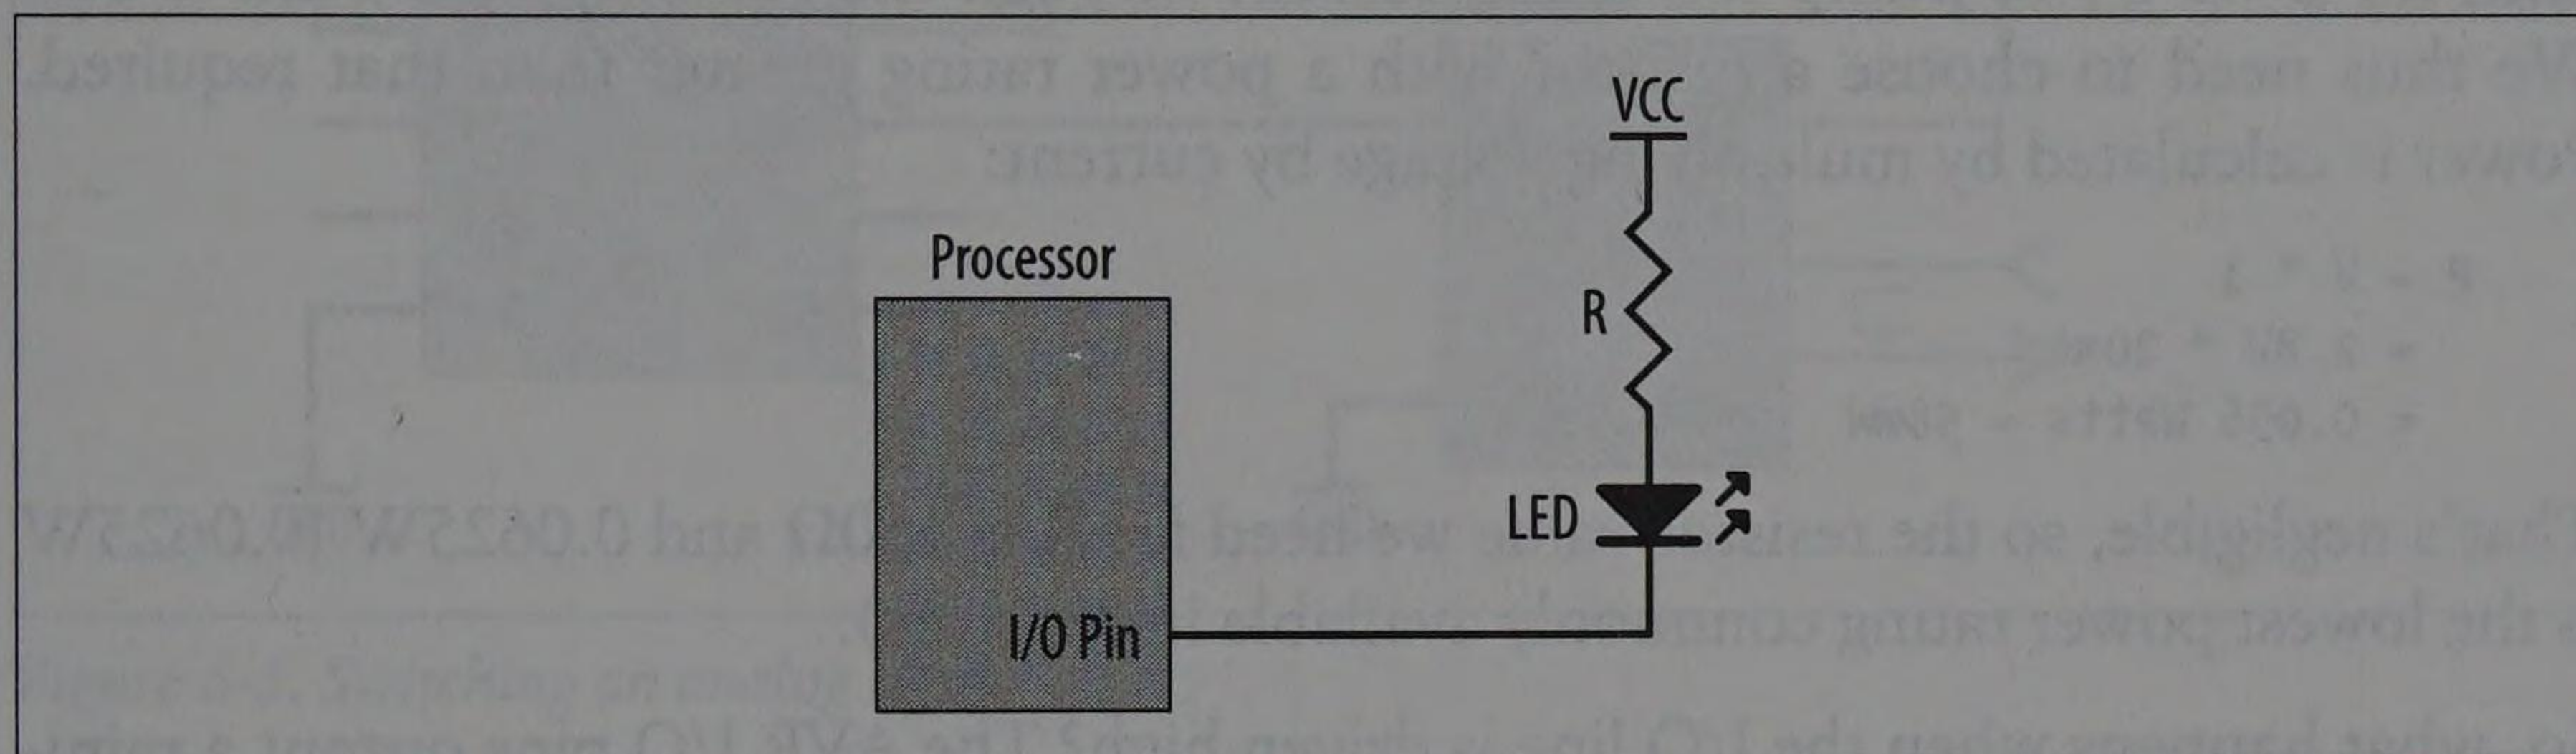

Figure 6-4. Status LED
The circuit for a status LED is shown in Figure 6-4. It uses an I/O line of the microcontroller to switch the LED on or off. Sending it low will turn on the LED; sending it high will turn the LED off, as we'll soon see. The resistor (R) is used to limit the current sinking into the I/O line, as we shall also see shortly.